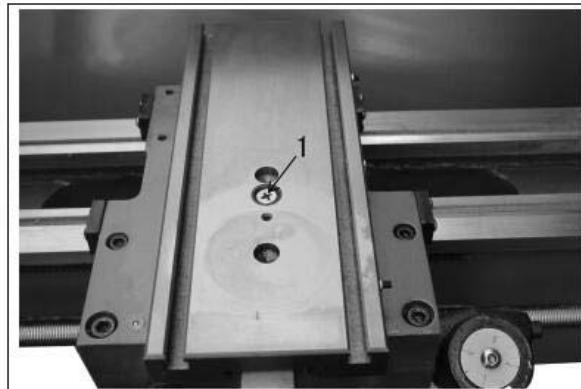

*Figure 33*
1. Loosen screw (1, Figure 33) and lock nut (2, Figure 33).
2. Adjust the nut until all play has been taken up. Lock the nut (2) with the screw (1).